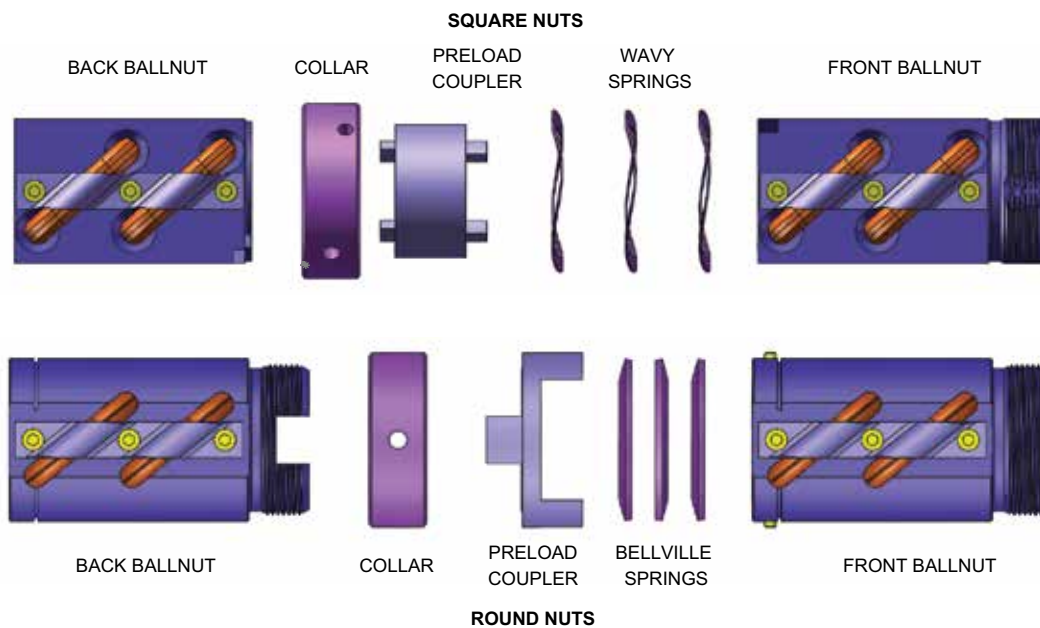

FIGURE 4
- 2 Align the nut assembly to appear like drawing figure 4.